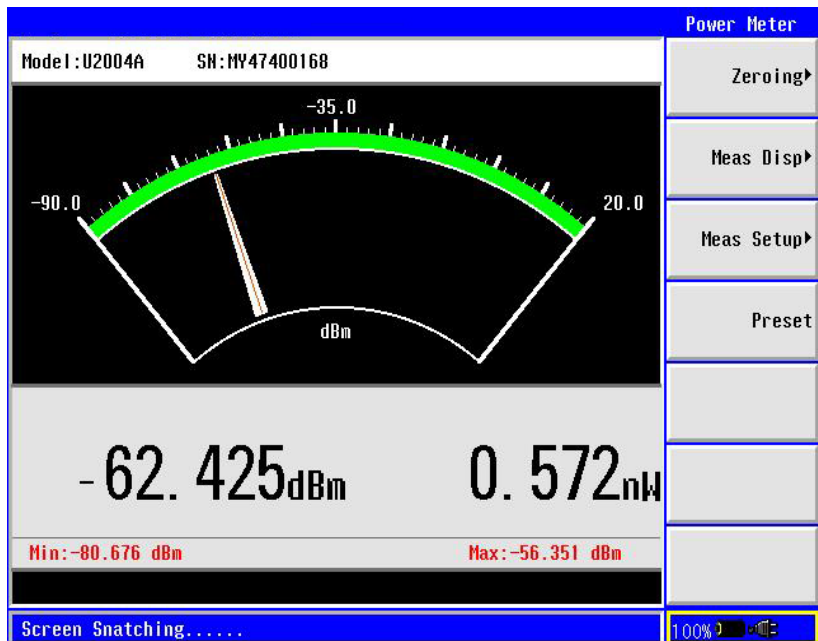

Figure 14. N9340A HHSA turns into a power-meter measurement
2. Press [Mode], use [↑] or [↓] to select the {Power Meter} then press [ENTER] (see Figure 14).